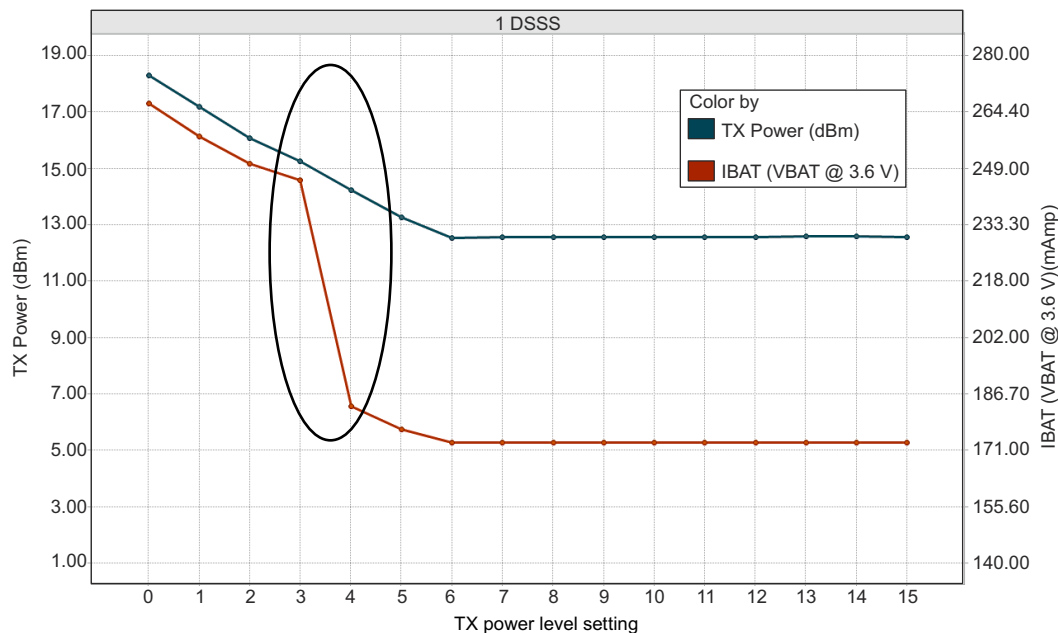
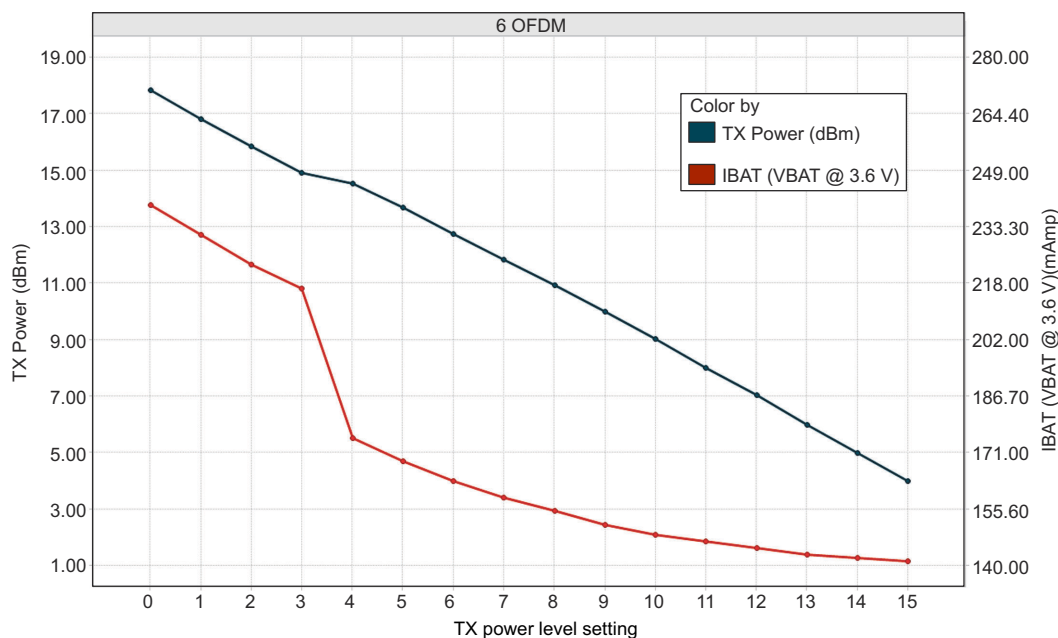
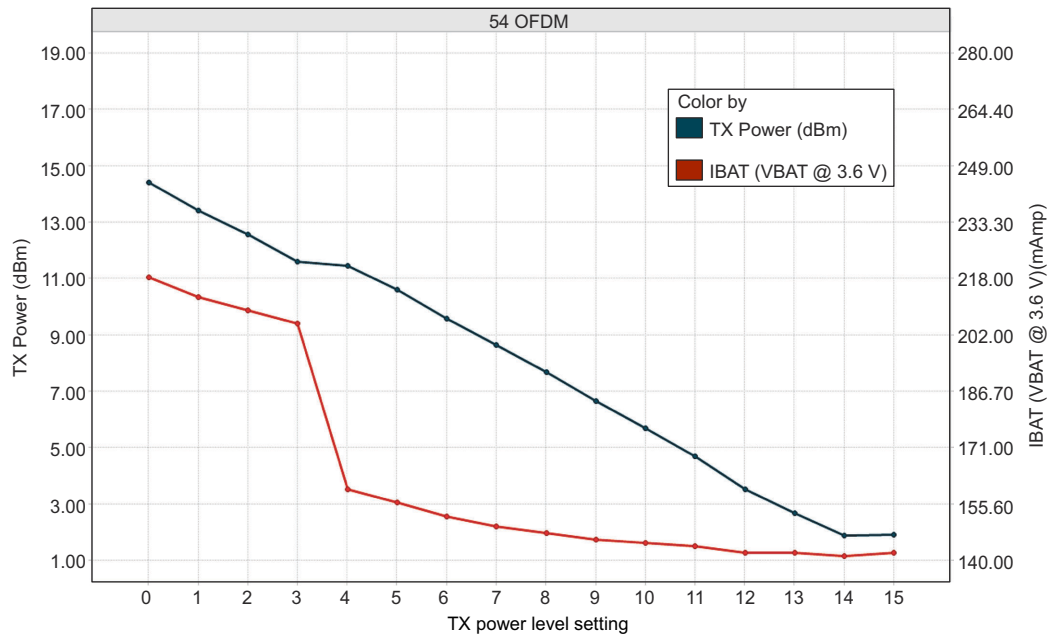

Figure 8-1. TX Power and IBAT vs TX Power Level Settings (1 DSSS)
Figure 8-2. TX Power and IBAT vs TX Power Level Settings (6 OFDM)
Figure 8-3. TX Power and IBAT vs TX Power Level Settings (54 OFDM)
- (1) TX power level = 0 implies maximum power (see Figure 8-1, Figure 8-2, and Figure 8-3). TX power level = 4 implies output power backed off approximately 4 dB.
(2) The CC3135 system is a constant power-source system. The active current numbers scale based on the V_{BAT} voltage supplied.
(3) The RX current is measured with a 1-Mbps throughput rate.
(4) DTIM = 1
(5) The complete calibration can take up to 17 mJ of energy from the battery over a time of 24 ms. In default mode, calibration is performed sparingly, and typically occurs when re-enabling the NWP and when the temperature has changed by more than 20°C. There are two additional calibration modes that may be used to reduced or completely eliminate the calibration event. For further details, see CC31XX CC32XX SimpleLink™ Wi-Fi® and IoT Network Processor Programmer's Guide.
- (2) The CC3135 system is a constant power-source system. The active current numbers scale based on the V_{BAT} voltage supplied.
- (3) The RX current is measured with a 1-Mbps throughput rate.
- (4) DTIM = 1
- (5) The complete calibration can take up to 17 mJ of energy from the battery over a time of 24 ms. In default mode, calibration is performed sparingly, and typically occurs when re-enabling the NWP and when the temperature has changed by more than 20°C . There are two additional calibration modes that may be used to reduced or completely eliminate the calibration event. For further details, see CC31XX, CC32XX SimpleLink™ Wi-Fi® and IoT Network Processor Programmer's Guide.
Figure 8-1, Figure 8-2, and Figure 8-3 show TX power and IBAT versus TX power level settings for the CC3135 device at modulations of 1 DSSS, 6 OFDM, and 54 OFDM, respectively.
In Figure 8-1, the area enclosed in the circle represents a significant reduction in current during transition from TX power level 3 to level 4. In the case of lower range requirements (14-dBm output power), TI recommends using TX power level 4 to reduce the current.